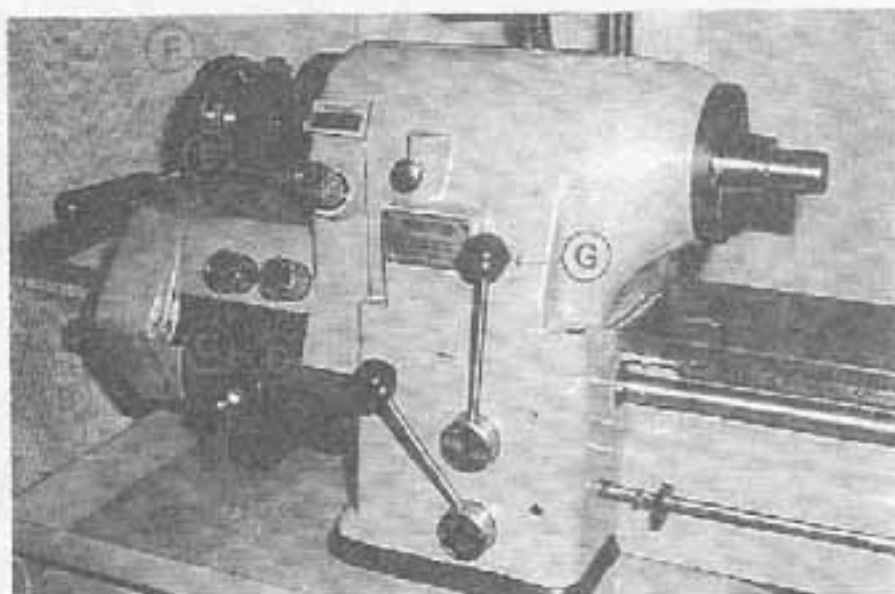
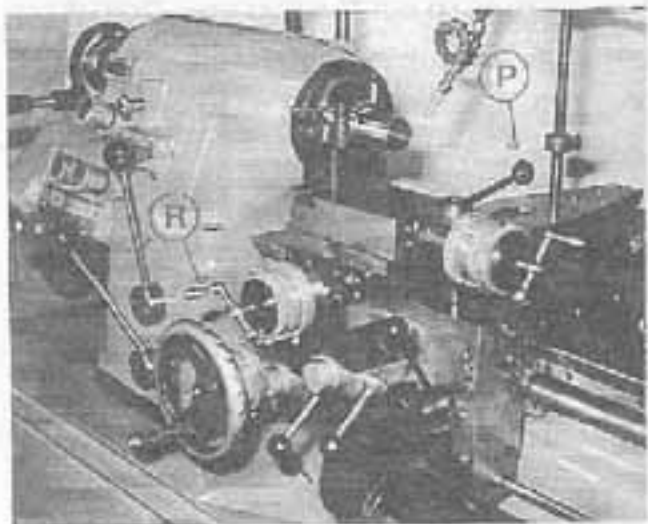

Figure 1 - Headstock and Gearbox
Figure 3 - Carriage and Compound Slide
Set the quick-change gearbox for desired pitch. To make a selection on the gearbox thread chart, pull the spring-pressured knob "A", Figure 1, out as far as it will go and lower it until it will move sideways to the desired notch directly under the thread required. Raise the handle and let plunger drop into hole. If tumbler handle will not raise for enough to position plunger into hole, loosen knob "S", open gear box door and rotate gear "T", Figure 4, until gears mesh and handle raises, permitting plunger to seat.
Set three-change knob "C", Figure 1, for number corresponding to left side of gearbox thread chart. Set knob "C" so desired number is in bottom position in line with arrow. If the sliding gear cluster does not engage the other gears in gearbox properly to bring the desired number on three-change knob "C" in line with arrow, loosen knob "B" open gearbox door and rotate gear "T", Figure 4, until gear mesh.
Set English /Metric knob "D", Figure 1, so thread system to be cut reads at top of knob, If the sliding gear does not engage properly to bring desired system to read at top, loosen knob "B", open gearbox door and rotate gear "T", Figure 4, until gears mesh and knob is felt to engage detent.
Engage gearbox by turning knob "E", Figure 1, counterclockwise in the direction of arrow marked "THREAD". When turning knob "E", the teeth of the sliding gear within the gearbox may not mesh with the headstock spindle gear teeth. If this is the case, turn headstock spindle with handwheel "F" while turning knob "E" to left until definite click is heard.
Carriage control lever "G", Figure 1, when moved to the left, will cause carriage to move to the left. When the carriage control lever is moved to the right, the carriage will move to the right. Carriage travel can be stopped at any time by placing control lever "G" in center position.
With carriage at rest and quick-acting handle "P" Figure 3, forward in cutting position, feed the desired amount for each threading pass using cross slide handwheel "R".
Move lever "G", Figure 1, to the left and carriage will travel until it contacts stop at headstock end of machine. The headstock spindle will continue to run. Carriage stops cause only the gearbox, lead98 screw and carriage to stop.
After each pass, withdraw threading tool from work with quick-acting handle "P", Figure 3, and return carriage to starting position by moving carriage control lever "G", Figure 1, to the right.
BEFORE SETTING UP CHANGE GEARS, PLACE KNOB "A", FIGURE 1, IN THE "OUT" POSITION
4. Loosen knob "S", Figure 1, open gearbox door and remove 50 tooth gear "S", Figure 4, and 127 tooth gear "T". Do not misplace key under 50 tooth gear.
13. Close gearbox door, tighten knob "B", Figure 1, and turn three-change knob "C" to position specified on chart.
16. Follow same procedures for setting carriage stops lead screw nut and compound slide as when cutting threads from the gearbox. Use of carriage control level "G", Figure 1, and quick-acting handle "P", Figure 3, will also be the same as when cutting threads from the gearbox.
3. Loosen knob "B", Figure 1, open gearbox door and remove 127 tooth gear "T", Figure 4.
15. Follow same procedures for setting carriage stop, lead screw nut and compound slide as when cutting threads from the gearbox. Use of carriage control lever "G", Figure 1, and quick-acting handle "P", Figure 3, will also be the same as when cutting threads from the gearbox.